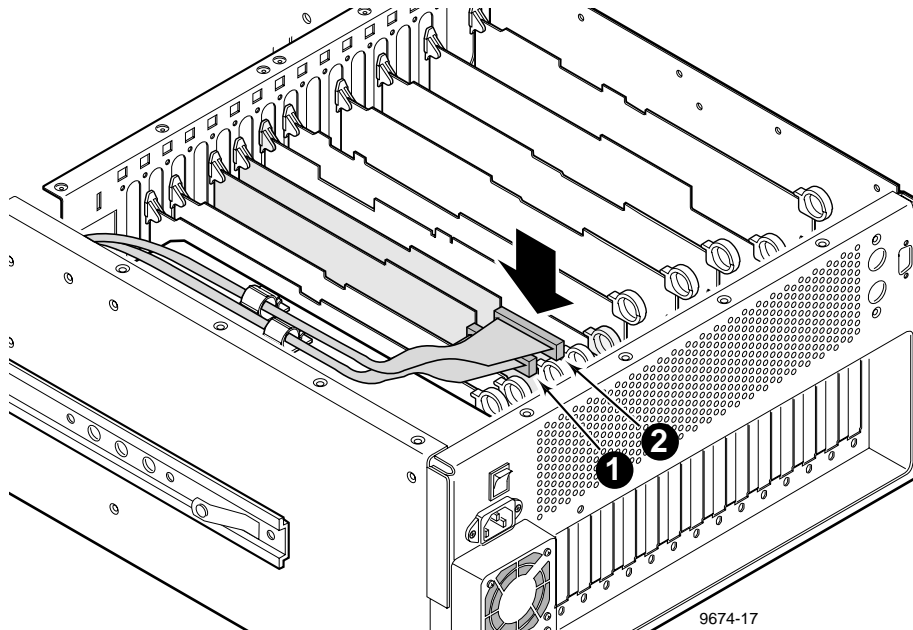

Figure 19. SCSI Cable Connections
Figure 19 shows installation of the SCSI cable connectors. Refer to Figure 19 and:
1. Connect the cable labelled **SCSI A** (❶ in Figure 19) to the header connector on the Master EDR board.
2. For a 4-channel PDR 100, connect the cable labelled **SCSI B** (❷ in Figure 19) to the header connector on the Slave EDR.